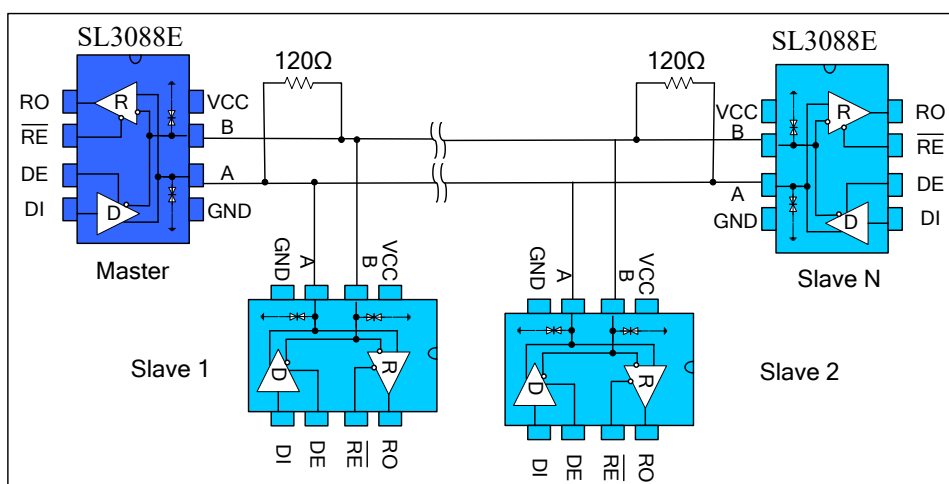

Figure 9 Bus type RS485 half-duplex communication network
4.1 Bus Networking: SL3088E RS485 transceiver is designed for bidirectional data communication on multi-point bus transmission line. Figure 9 shows a typical network application circuit. These devices can also be used as linear repeaters with cables longer than 4000 feet. In order to reduce reflection, terminal matching should be carried out at both ends of the transmission line with its characteristic impedance, and the length of branch lines outside the main line should be as short as possible.